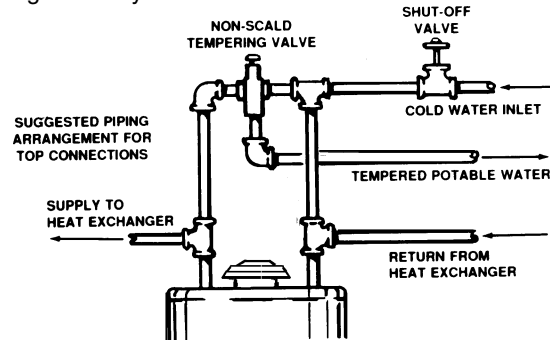

FIGURE 2
4. When the system requires water for space heating at temperatures higher than required for domestic water purposes, a tempering valve must be installed. Please refer to Fig. 2 for suggested piping arrangement.